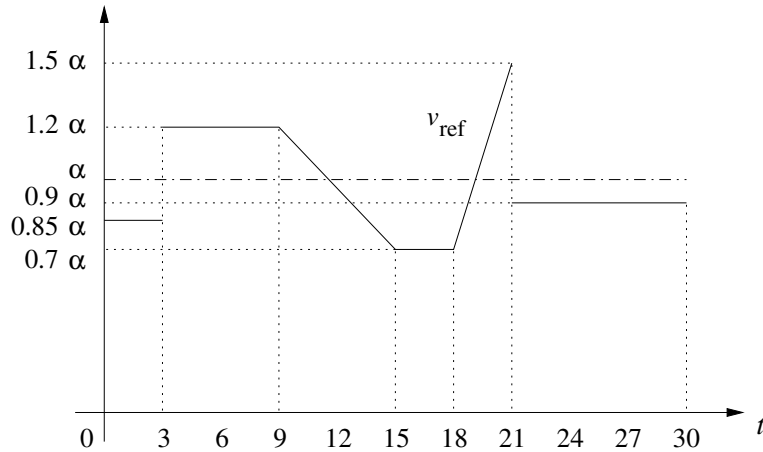

Figure 3: The reference speed signal to be used.
Step 1.8: Assume $\lambda = 0.1$ (in general, an appropriate value of λ is determined by taking into account the nominal values of J_{track} and J_{input} and by some tuning and iteration). Consider two combinations of N_p and N_c : first the combination $(N_{p,1}, N_{c,1}) = (5, 4)$ which is the same for all groups, and another combination $(N_{p,2}, N_{c,2})$ that you may select yourself with $N_{p,i} \in \{7, 8, 9, 10\}$ and $1 < N_{c,i} < N_{p,i}$. For each combination run your program for the time interval $[0, T_{\text{end}}]$ with $T_{\text{end}} = 25$, for $v(0) = 0.9\alpha$ where α is the value found in Step 1.2, and for the speed reference signal v_{ref} which defined as follows (see also Figure 3):